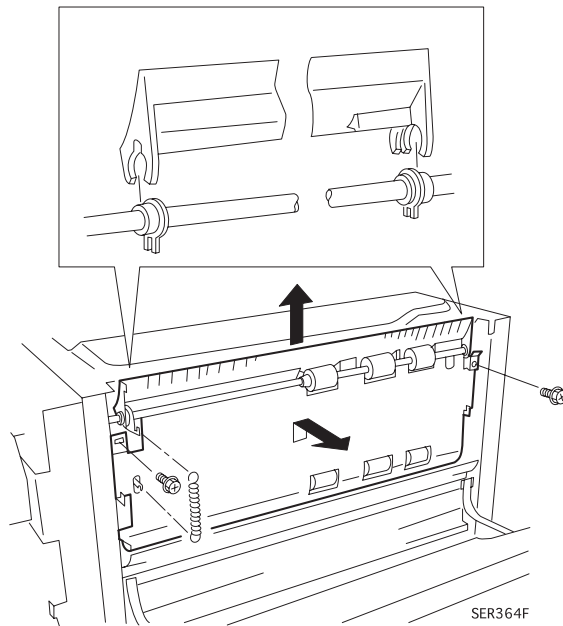

Figure 3-23. Spring
16. Reinstall the plastic Upper Take Away Chute onto the three bearings on the Take Away Roll (Figure 3-23).